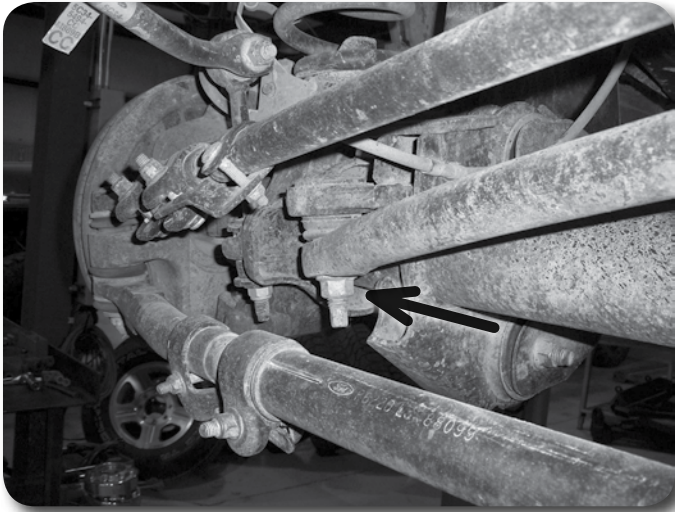
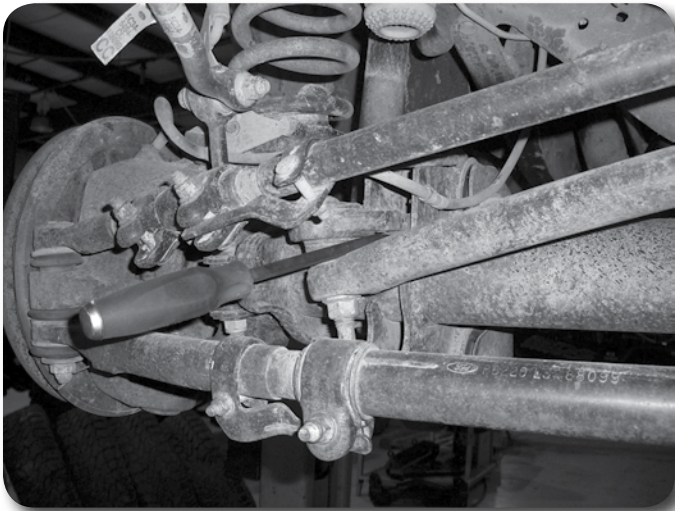

Figure 1
Figure 2
5. Remove the track bar ball joint nut at the axle. **Figure 1** Thread the nut back on a couple of turns. Raise the axle a couple of inches with the jack. Place an appropriate sized pry bar between the axle mount and the track bar. **Figure 2** Lower the axle to pinch the pry bar between the track bar and axle mount. Take your hands off of the pry bar. Continue lowering the axle until the track bar unseats from the taper. Remove the nut and track bar from the ball joint. Save nut.